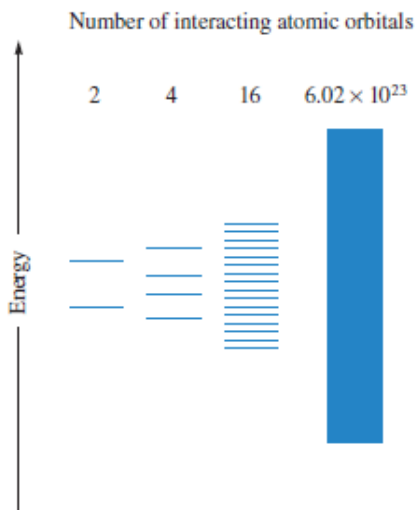

FIGURE 10.19
- a related model is the band model or molecular orbital (MO) model
- see Figure 10.19